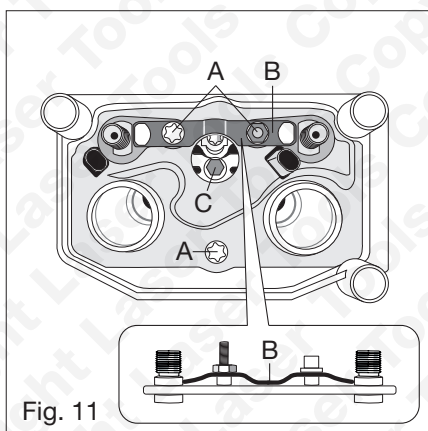

Fig. 11
15. Install new clamping plate **B**. Refer to Figure 11 for correct orientation of clamping plate.